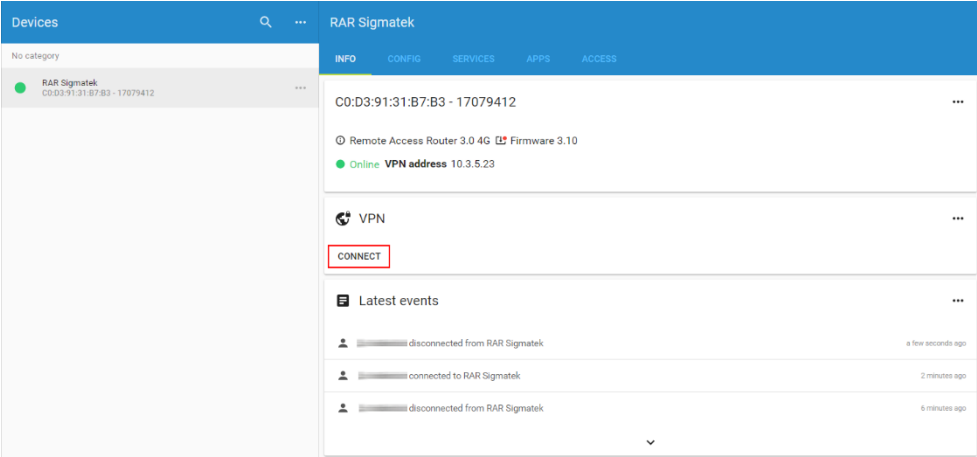

Figure 5.52 Each device has a VPN connect button to establish secure communications.
3. From the "info" page, click "connect" under the VPN tab (Figure 5.52).